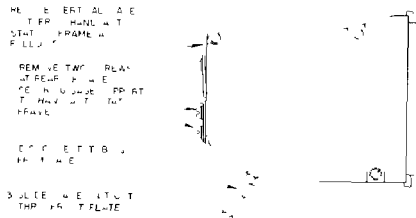
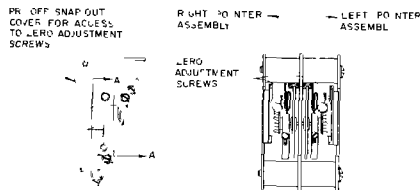

FIGURE 1 Removing Vertical Gage Unit from H/A Station
FIGURE 2 Vertical Gage Unit Zero Adjustment Screws
2 If pointers do not read minimum scale, remove vertical gage unit from H/A Station as outlined in Figure 1.
3 Remove snapout cover (Figure 2) and turn zero adjustment screw until pointer reads correctly.
- 1 Remove gage unit from H/A Station as shown in Figure 1. Pry off snapout cover and remove side cover for access to gage unit adjustments (see Figure 2).